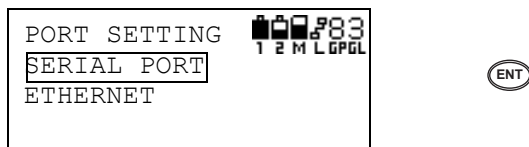

Figure 3-78. Select Serial Port and Press Enter
- On the Port Setting screen, select SERIAL PORT and press **ENT** (Figure 3-78).